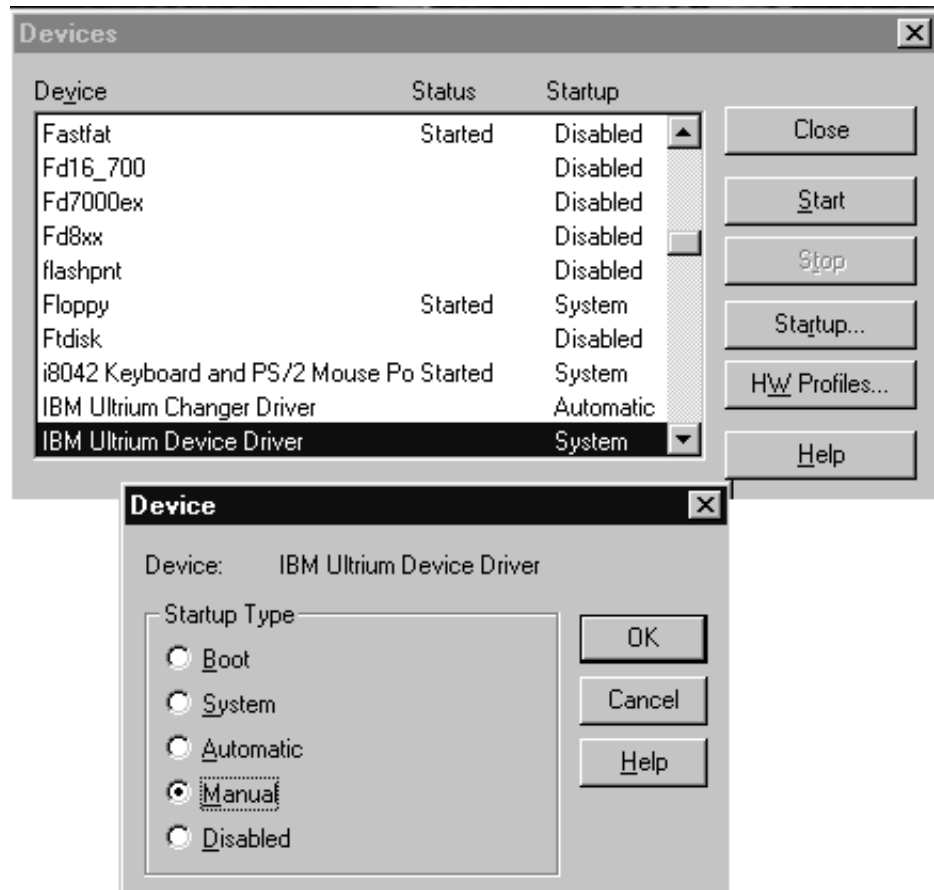

Figure 25. Manual Starting and Stopping Menu
5. Select the driver, click **Startup...**, select **Manual**, then click **OK**. See Figure 25 on page 237.